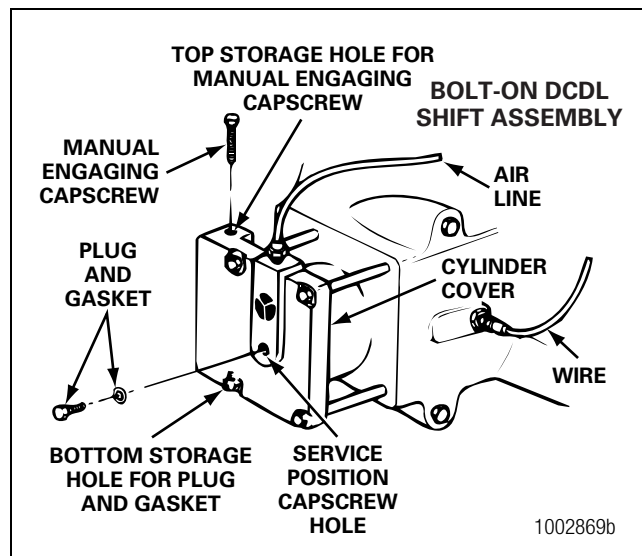
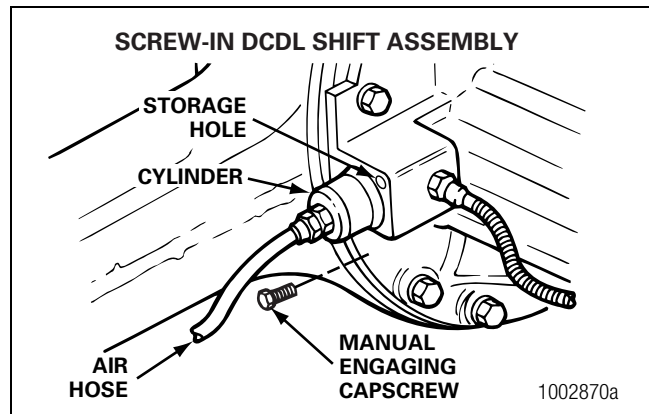

Figure 6.17
Figure 6.19
1. Install the washer and plug into the hole for the sensor switch. Tighten the plug to 45-55 lb-ft (60-74 N•m). Figure 6.17.
9. Install the manual engaging capscrew into the DCDL storage hole in the bolt-on or the screw-in DCDL assembly. Figure 6.17 and Figure 6.19. The sealing gasket must be under the head of the capscrew.
- A. On a bolt-on DCDL shift assembly, remove the short plug and gasket from the storage hole of the DCDL. Install the short plug and gasket into the service position hole in the center of the DCDL. Figure 6.17.
- B. On a screw-in DCDL shift assembly, install the short screw or plug into the storage hole located in the top of the screw-in DCDL shift assembly. Figure 6.19.